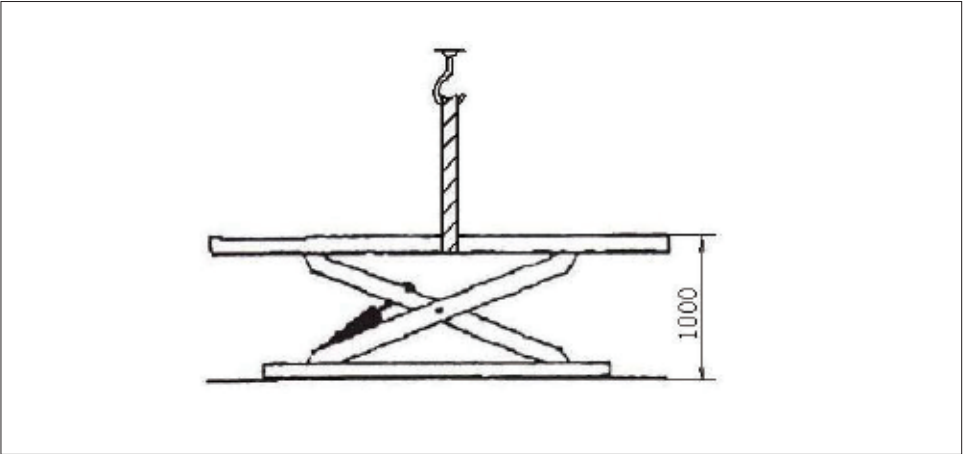

Fig. 5
- On the installation site, power supply and air supply shall be provided and connected with the control cabinet station in advance, and the ceiling height cannot be less than 4000mm. It is recommend to install the lift in a pit, and construct the foundation as required in Fig. 5.
Insert adjusting sizing blocks under the platform, lift the lifting platform with a forklift or other lifting equipment (Fig. 5) to about 1000MM, so as to ensure that the mechanical safety device is activated and locked.